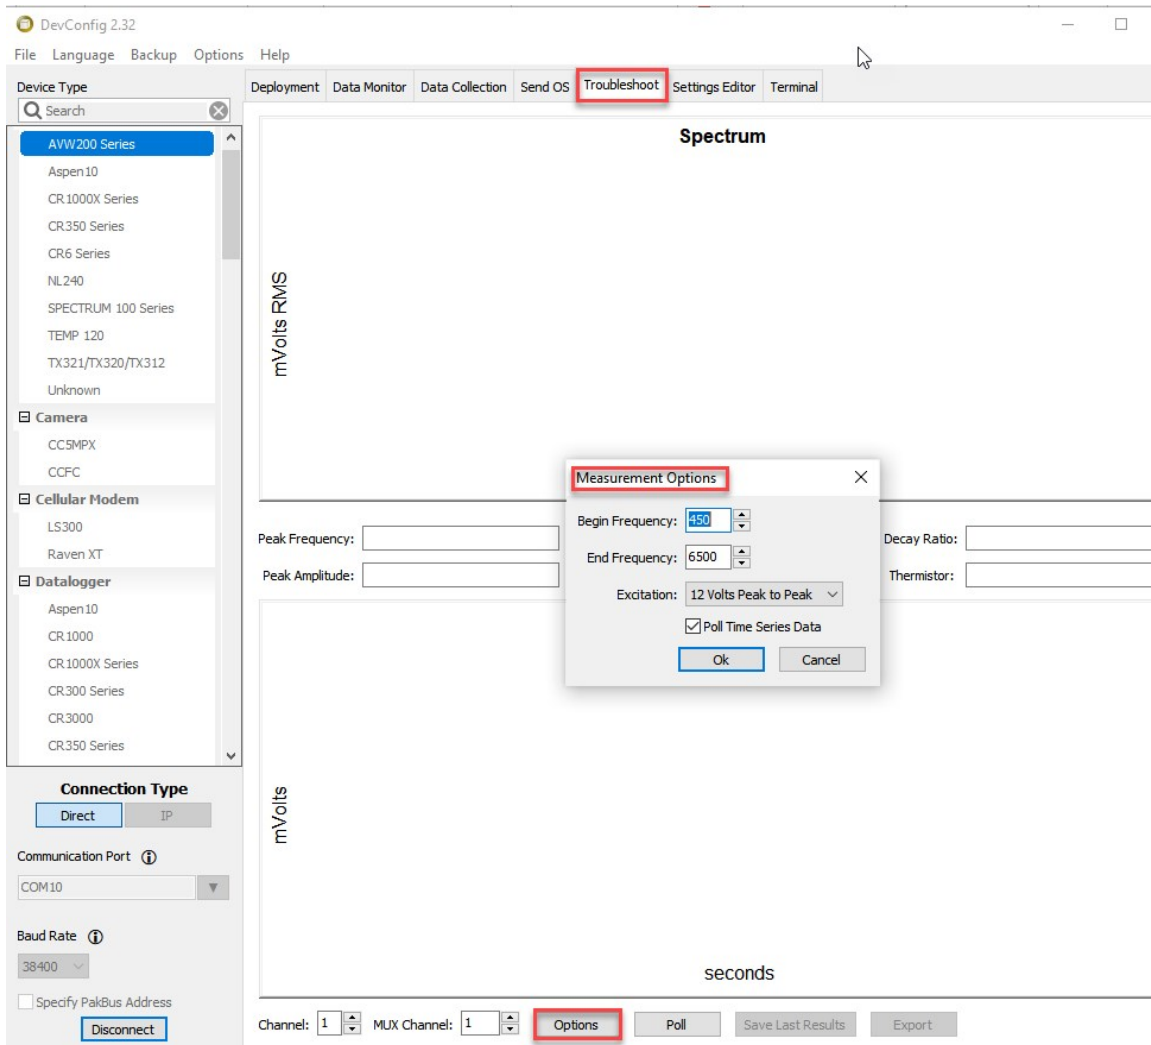

Figure 8-8. Options tab of the Troubleshoot tool
3. Click the lower-left **Options** tab to set the begin and end frequencies and the excitation voltage to test for a given sensor (Figure 8-8 [p. 41]). You may also choose to poll (default) or not poll the time series data from this **Options** window by checking or unchecking the **Poll** box.